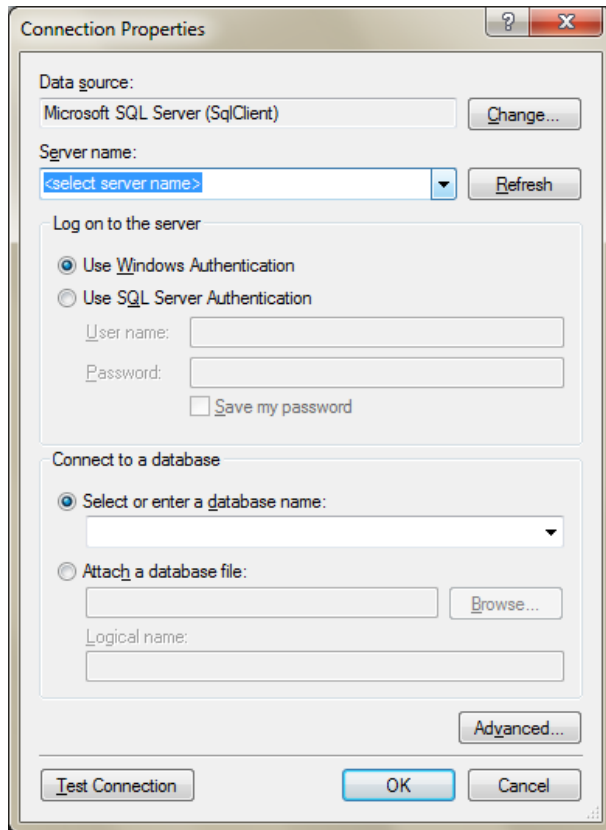

Fig. 4-10 Server Name
2. Click the drop down arrow from the **Server Name** section and select the appropriate server name to be used, as illustrated in Fig. 4-10.